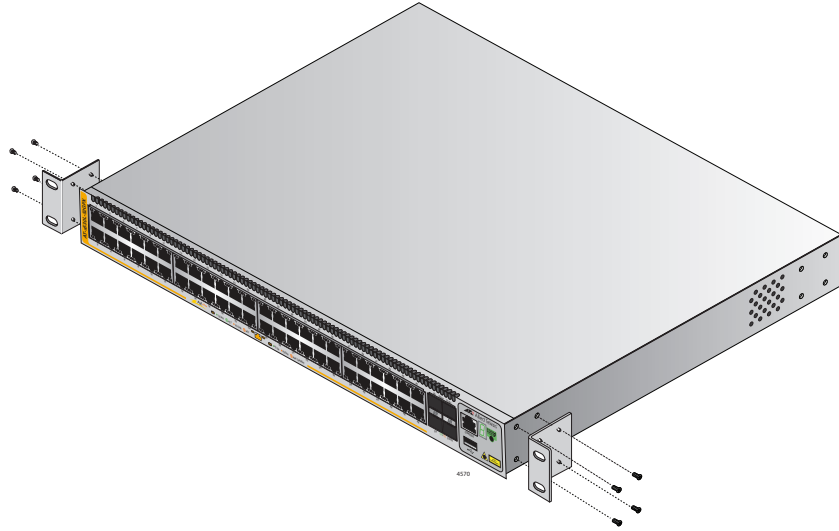

Figure 17. Example of Attaching the Brackets to the Switch
2. Attach the two brackets to the sides of the switch in the selected position, using the eight M4x6mm screws supplied with the unit. The illustration in Figure 17 shows the installation of the brackets such that the front panel of the switch is even with the front of the equipment rack.